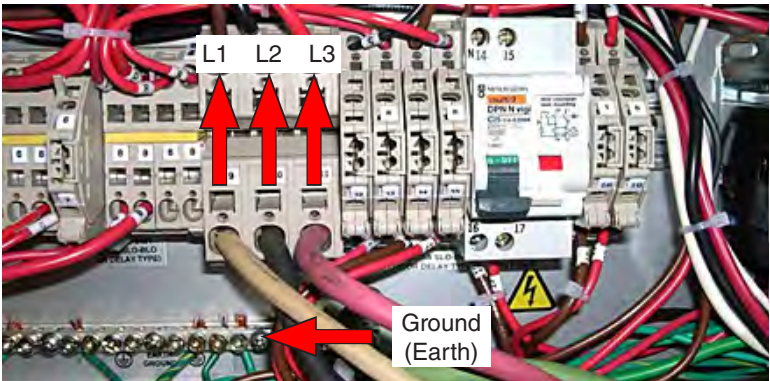

Figure 5.8d: Electrical input connections for 208 V and 230 V testers.
- For 208 V or 230 V machines, four wires are required; three current carrying conductors and an earth ground (Figure 5.8d).